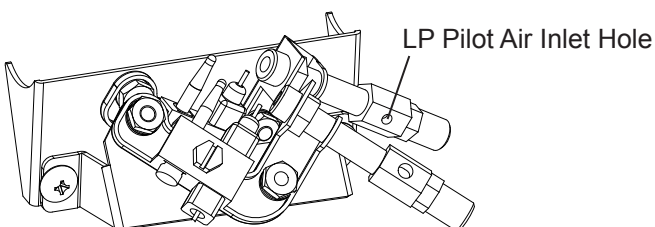

Fig. 25 - Pilot Inlet Air Hole (Propane/LP Gas)
6. In case any large clumps of dust have now been pushed into the burner repeat steps 3 and 4. Clean the pilot assembly also. A yellow tip on the pilot flame indicates dust and dirt in the pilot assembly. There is a small pilot air inlet hole about 2" from where the pilot flame comes out of the pilot assembly (see Figures 25 or 26 depending on model). With the unit off, lightly blow air through the air inlet hole. You may blow through a drinking straw if compressed air is not available.